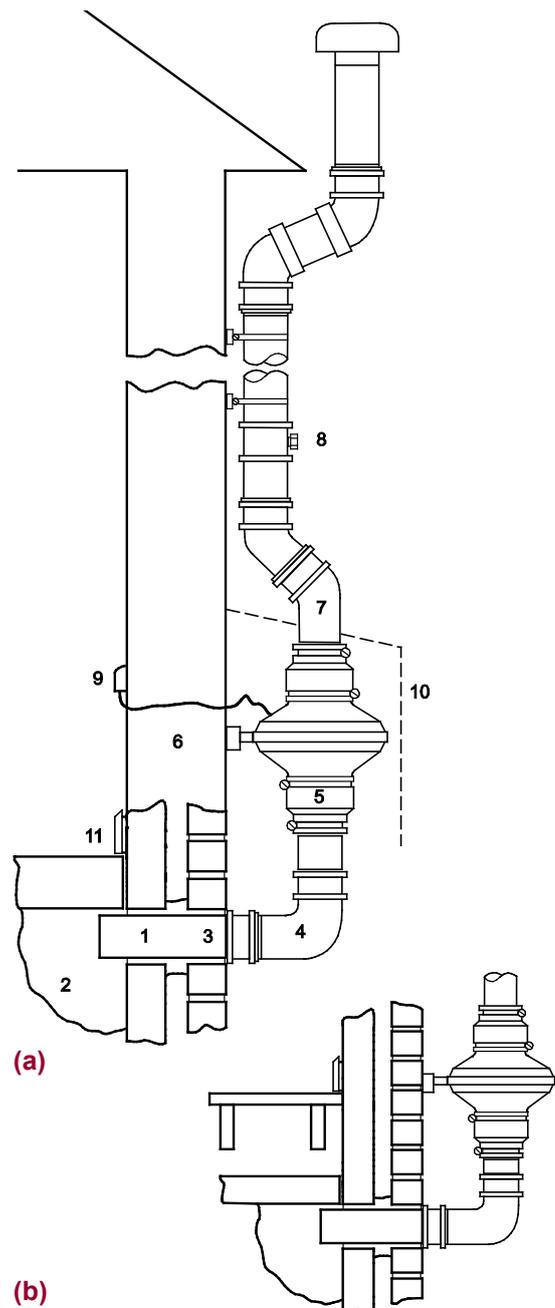

Figure 1 Mini sump system with high level exhaust: (a) under a solid floor and (b) under a suspended floor
The numbered steps below refer to Figure 1.
- there should be a good seal where pipe work joins the sump (see Figure 1)